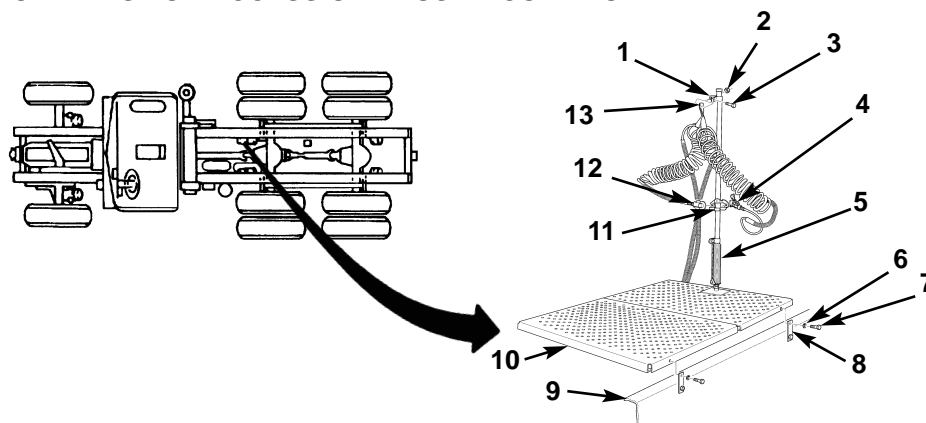

Figure 32. Disconnecting Air Hoses and Removing Service Deck.
1. Remove nut (figure 32, item 2), screw (figure 32, item 3), and strap (figure 32, item 13) from clamp (figure 32, item 1) on air hose tender (figure 32, item 5).
2. Disconnect emergency air pressure coupling (figure 32, item 12) and service air pressure coupling (figure 32, item 4) from storage brackets (figure 32, item 11) on air hose tender (figure 32, item 5), and set air hoses on spare tire carrier.
3. Remove four bolts (figure 32, item 7) and washers (figure 32, item 6) from service deck assembly (figure 32, item 10) and four tabs (figure 32, item 8), and remove service deck assembly (figure 32, item 10) from tractor frame (figure 32, item 9).